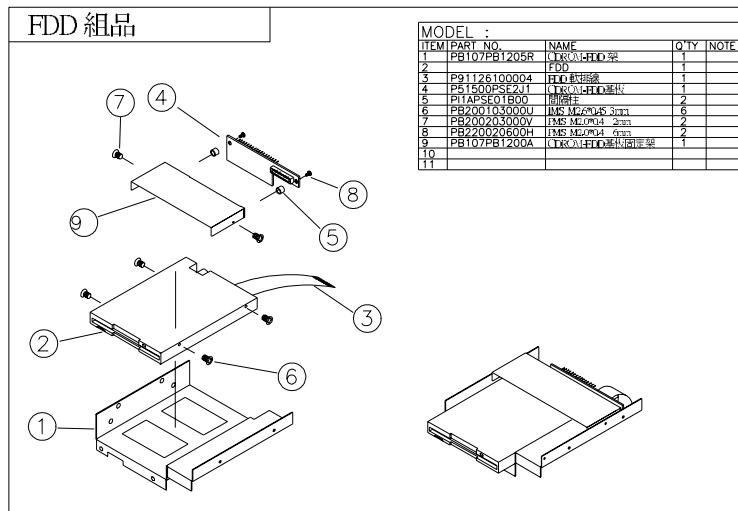

FIGURE 5-8: FDD INSTALLTION
5. Refer to Figure 5-8. Attach one end of the 26-pin FDD flat cable (3) to the slim floppy disk drive connector (2) first. Match pin 1 of the floppy disk drive and pin 1 of the cable.
6. Place the floppy disk drive to the bracket (1). Fix it on the bracket with the 4 screws.
- A. *No CD-ROM* is to be accommodated to the system. Refer to Figure 5-8 for reference.
- 1). Fix the FDD/CD-ROM board (4) to the FDD bracket (9).
- 2). Then, fix the FDD bracket with FDD/CD-ROM board to the FDD/CD-ROM bracket (1).
- 3). Connect the other end of the 26-pin FDD cable (3) to the 26-pin connector on the FDD/CD-ROM board (4).